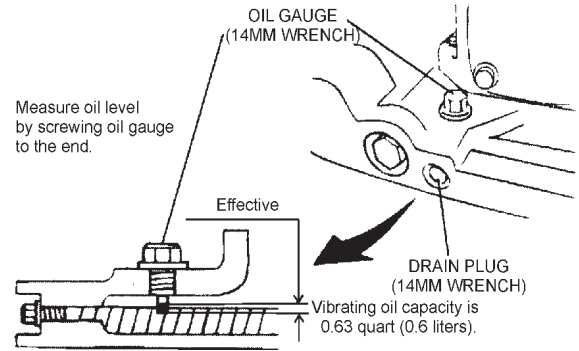

Figure 24. Vibrator Oil Drain and Check Plugs
In every 100 hours of operation, with the machine positioned horizontally, use a 14 mm wrench and remove vibrator oil level check plug (Figure 24). Measure oil level with gauge. Vibrating oil capacity is 0.63 quart (0.6 liters). Be sure to clean area around check hole to prevent dirt and dust from entering.
3. Using a 14 mm wrench remove the vibrator oil drain plug (Figure 24) from the vibrating plate assembly.
4. After vibrator oil has been completely drained from machine, fill with 10W-30 motor oil to the appropriate safe operating level (Figure 24).